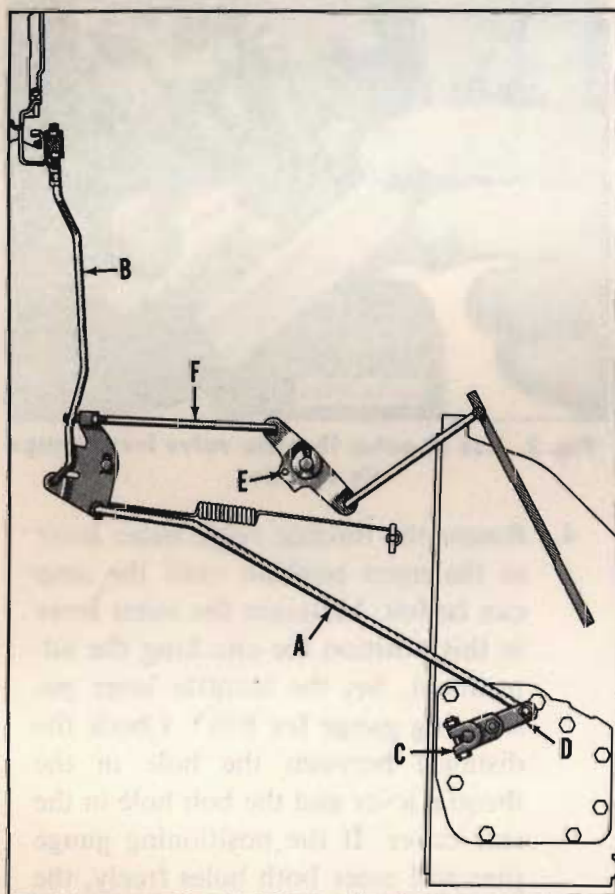

Fig. 3. Throttle valve linkage
2. Disconnect rod "A" (Fig. 3) from the throttle lever "D".
3. Disconnect rod "A" (Fig. 3) from throttle lever "D".
4. Using a 1/2" socket, remove the upper rear side cover bolt (Fig. 3). Rotate clamp "C" clockwise to the full detent position. Using a throttle lever positioning gauge, measure the distance between the bolt hole in the side cover and the hole in throttle lever "D". If the gauge pins will not enter the holes freely, loosen the